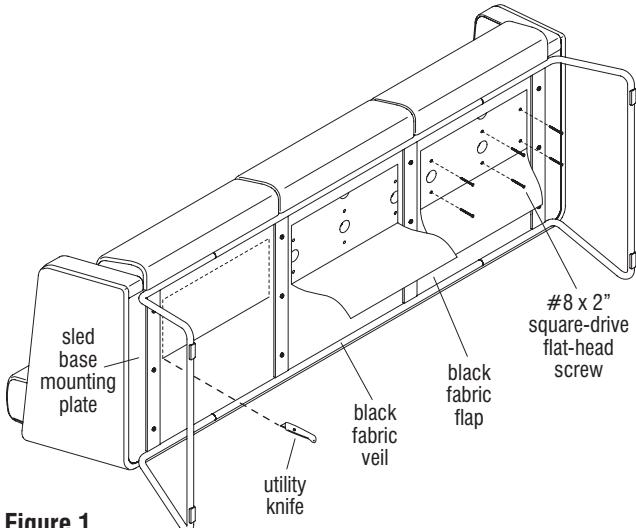

Figure 1
1. With the assistance of a second person, if needed, carefully lay the lounge unit onto its back, or upside down on a soft, protective surface (Figure 1).
Note: If cutting the black fabric veil is not desired to gain access to the screws which secure the cushion bottoms to the seat board, an alternate method may be used. This involves removal of the sled base frame first (save the #14 x 1 1/4" Phillips pan head screws). Then using a staple pliers, remove the upholstery staples holding about half of the fabric veil at the front and allow the fabric veil to drape down similar to Figure 1. Only if using this alternative method, skip step 2 and proceed to step 3.
2. To gain access to the screws securing the affected cushion to the seat board, use a utility knife to cut three sides of a rectangle in the black fabric veil on the bottom of the lounge unit to make a flap near the affected cushion as illustrated. Let the fabric drape down so it does not interfere with removing the screws in the next step (Figure 1, Details A & B).
3. Remove the six #8 x 2" square-drive flat head screws securing the seat cushion to the lounge seating seat board (Figure 1).